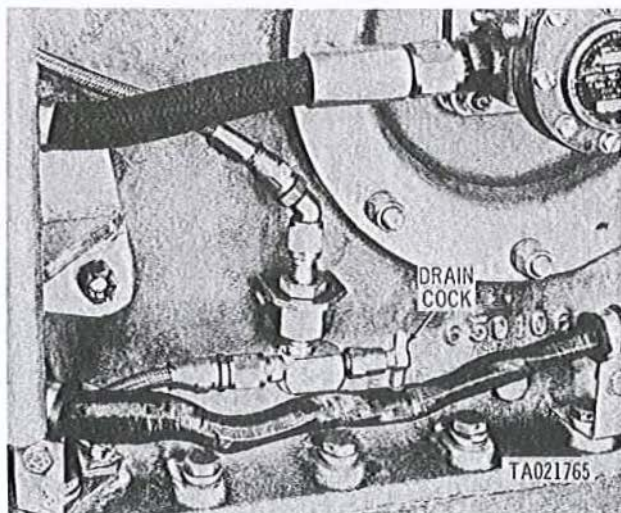
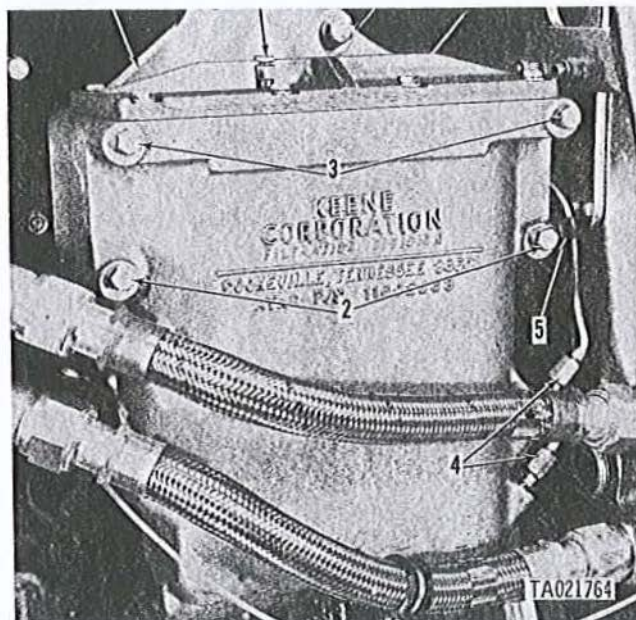

Figure 2-62. Fuel/water separator drain cock.
Figure 2-64. Removing or installing fuel/water separator filter.
(1) Open drain cock (fig. 2-62), and bleeder valve (1, fig. 2-64) and drain fuel into a suitable container.
(3) Loosen, but do not remove, two lower capscrews (2, fig. 2-64). Remove two upper capscrews (3) and pull fuel/water separator away from bracket. Disconnect two water level probes (4). Remove the two lower capscrews, lockwashers, one flat washer and cushioned clamp (5) and remove fuel/water separator filter from mounting bracket (6). Remove and retain bleeder valve (1) for installation in replacement filter.
(1) Install fuel/water separator filter on mounting bracket (6, fig. 2-64) and secure with two upper capscrews, lockwashers and flat washers (3). Do not tighten capscrews. Install two water level probes (4) and tighten capscrews (3). Attach cushioned clamp (5) to water level probe leads and install two lower capscrews, lockwashers, one flat washer (2) and cushioned clamp.
(2) and connect fuel outlet hoses (1). Remove shipping plug from filter cover and install bleeder valve (1, fig. 2-64) and open. Close drain cock (fig. 2-62) and purge fuel system. Close bleeder valve after purging.
(1) Open drain cock (fig. 2-62) and bleeder valve (1, fig. 2-64) and drain fuel into a suitable container.
(2) Close drain cock (fig. 2-62), and purge fuel system. Close bleeder (1, fig. 2-64) valve after purging.